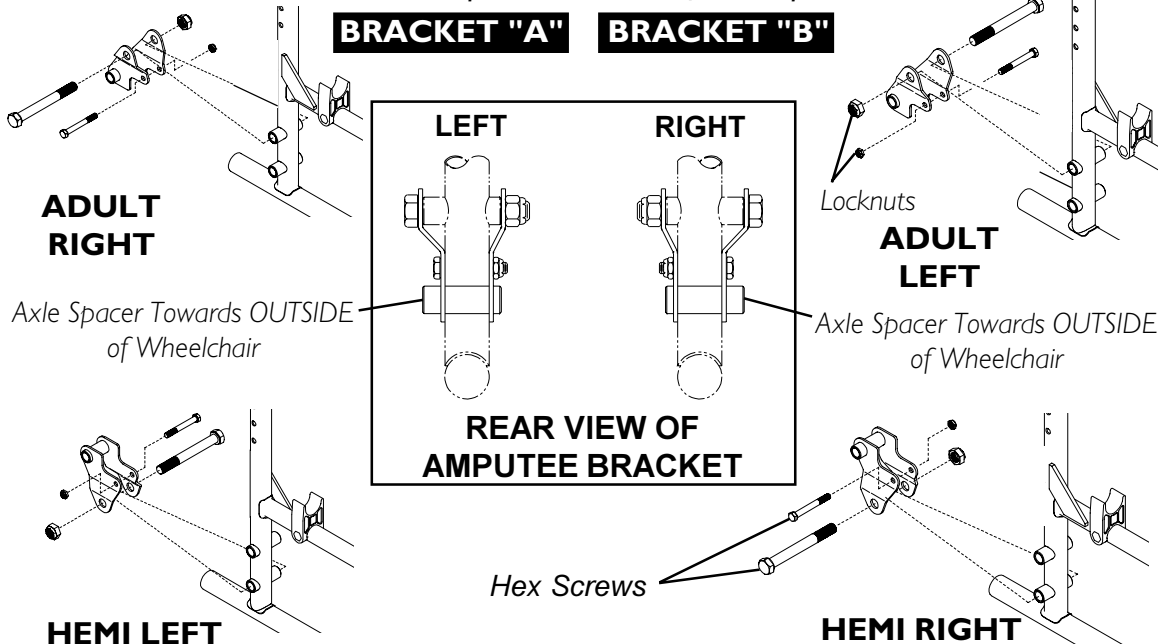

FIGURE 1 - INSTALLING THE AMPUTEE BRACKET
INSTALLING THE AMPUTEE BRACKET (FIGURE 1)
1. Refer to the following chart or FIGURE 1 to determine the mounting position of the amputee bracket: